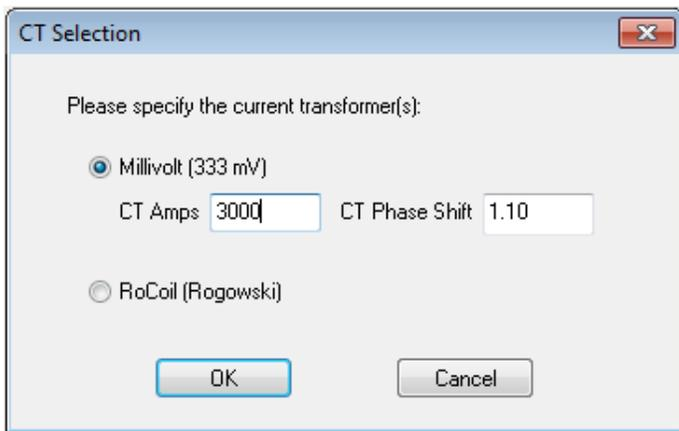

Figure 5. Set up of the red FLN-3000 CT using the CT Selection dialog box
3.	When using the red FLN-3000 or any other CT provided by the Tool Lending Library: <ul style="list-style-type: none"> <li>○ Select the Millivolt (333mV) radio button (see Figure 5)</li> <li>○ In the CT Amps field, enter the value shown on the CT's signal amplifier* (either 300A or 3000A)</li> <li>○ In the CT Phase Shift field, enter 1.1 for any CT provided by the Tool Lending Library</li> </ul>